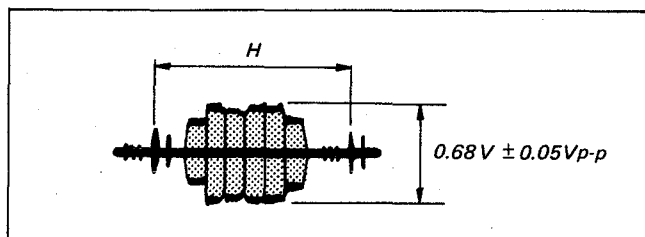

Fig. 5-28. ACC adjustment
- i) Adjust to $0.68V \pm 0.05V_{p-p}$ with RV001. (See Fig. 5-28.)